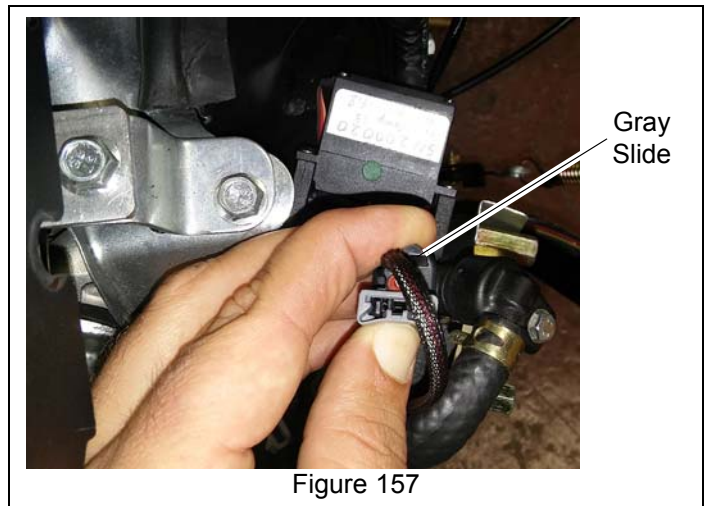

Figure 157
- a. Move gray slide upward until it stops. Gently compress gray slide and remove connector. See Figure 157.